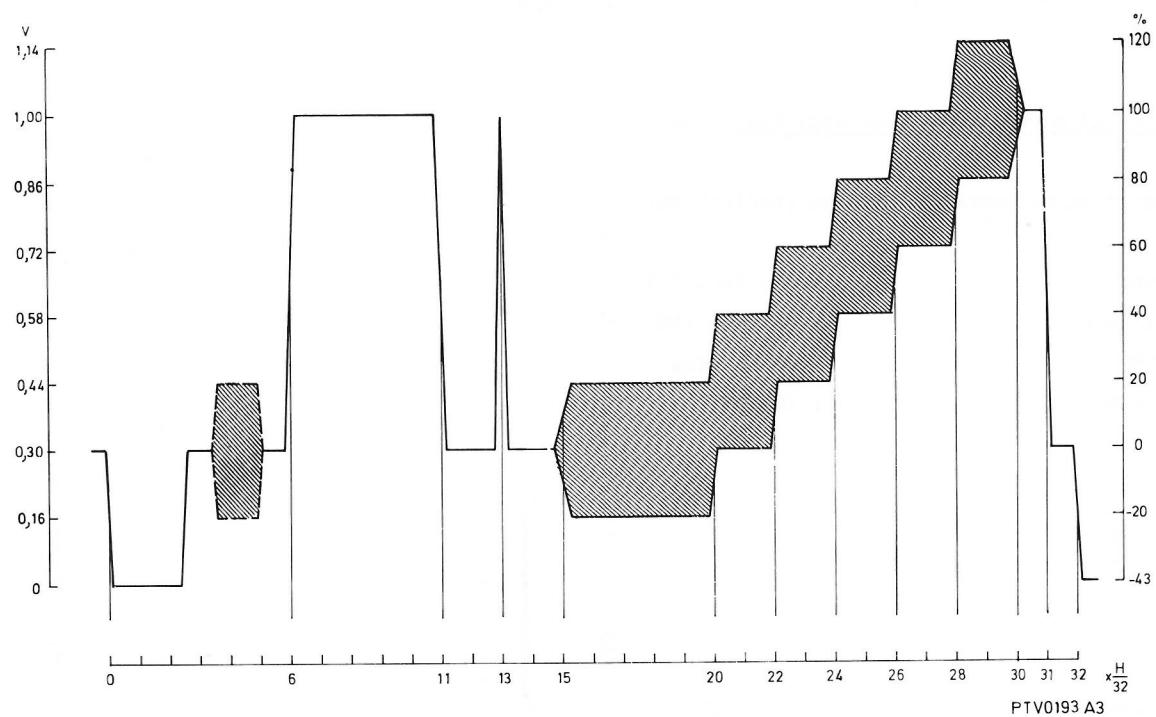

Fig. 3-3 Test line 330 signal
3. (C) Test line 330 signal (See also fig. 3-3)